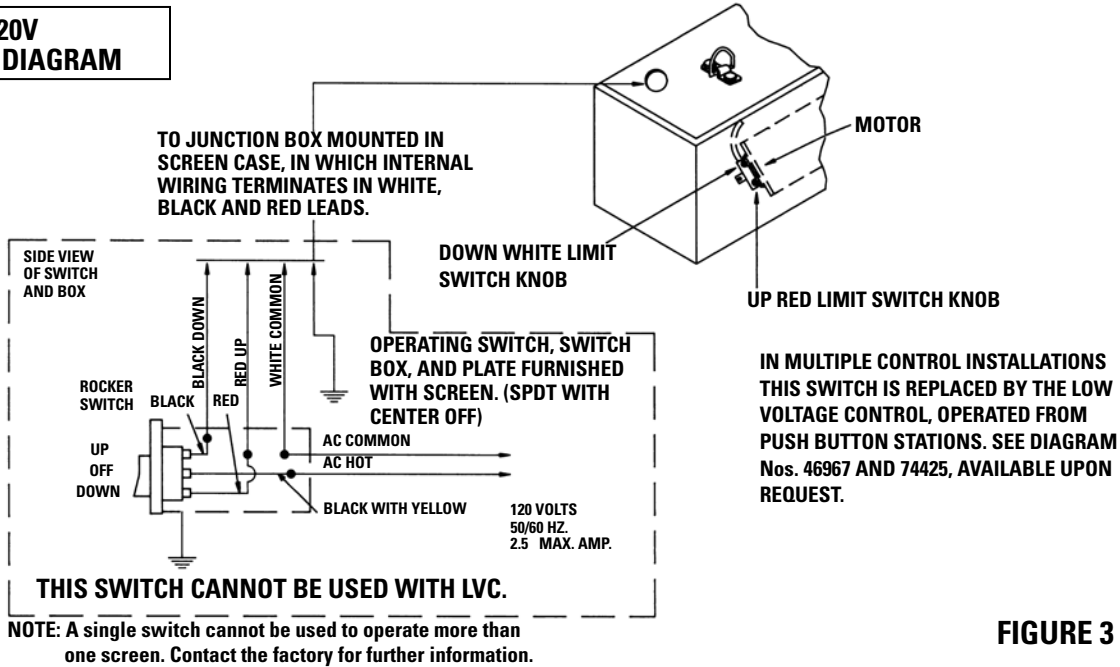

FIGURE 3
3. Install electrical hook-up that applies to your unit. Make sure to review your electrical installation checklist and wiring diagrams (included) for either 120 volt switch, 220/240 volt switch or low voltage control. See Figure 3.